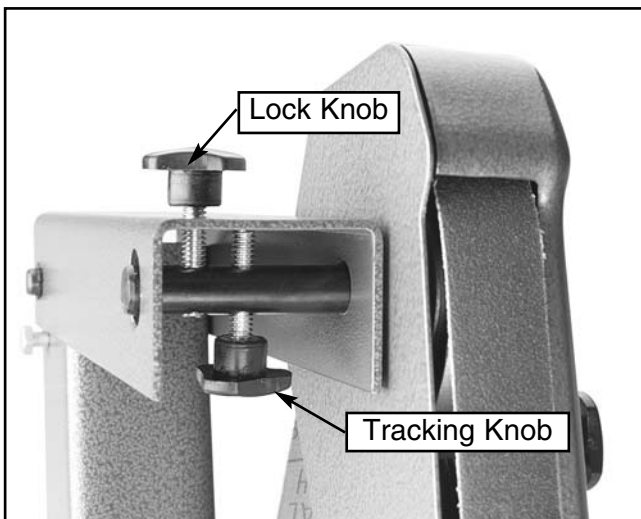

Figure 15. Location of tracking adjustments.
3. By sight, center the Sanding Belt by adjusting the tracking knob. **See Figure 15.**